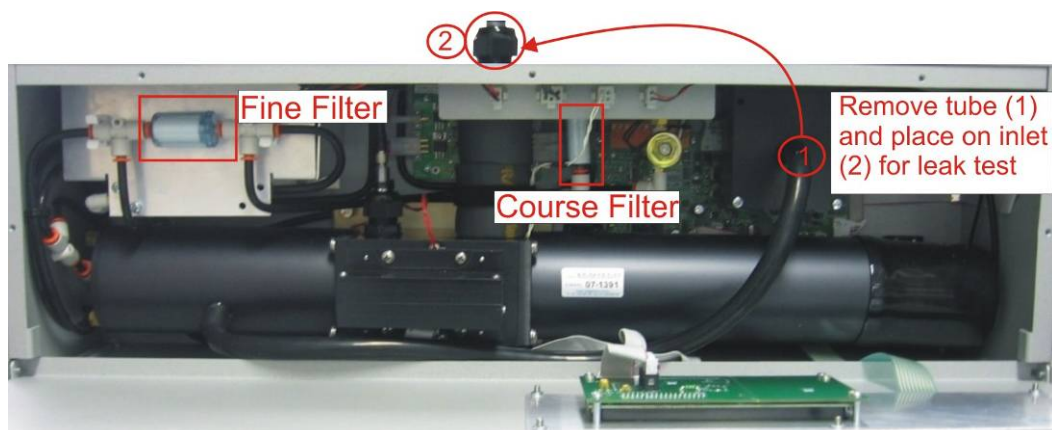

Figure 44 Aurora with Filters highlighted and leak test setup shown
2. Remove DFU by opening quick fittings (Figure 44).